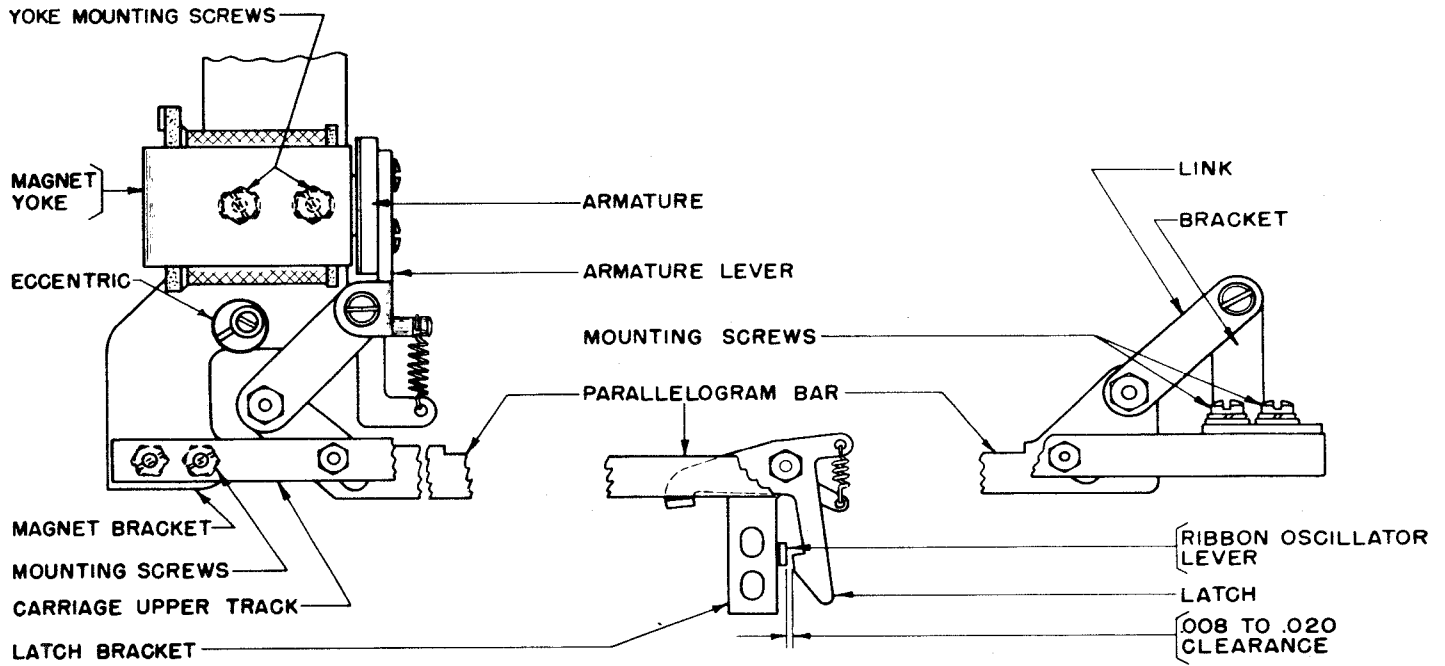

Figure 10
7.07 Parallelogram-bar Brackets: With the magnet de-energized and with the armature backstop-eccentric positioned to give maximum travel of the armature, the front edge of the parallelogram bar should be parallel with the front edge of the upper track and its front edge should not project beyond the front edge of the upper track by more than 0.030 inch. See Figure 10.
(3) With the armature held against the core of the magnet, the ribbon-oscillator lever should clear the latch by minimum 0.008 inch, maximum 0.020 inch. See Figure 10.